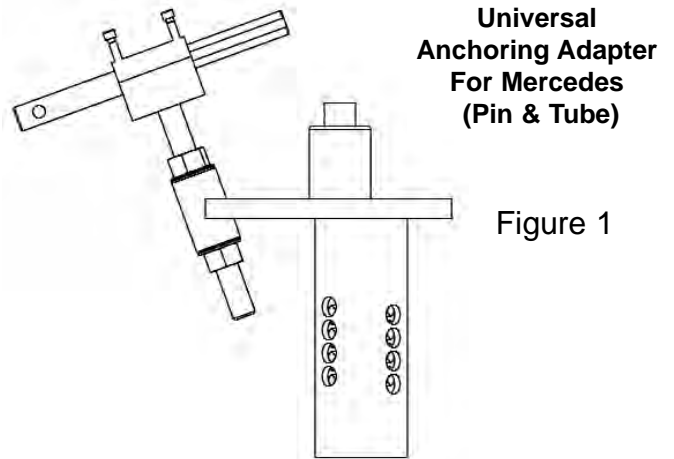

Figure 1
1. Remove all tubes and pinchweld clamps from the base of each anchoring stand and install an anchoring adapter tube (see Figure 1) in each base. Figure 2 shows the relationship of the tube to the anchoring stand and to the vehicle's rocker panel.